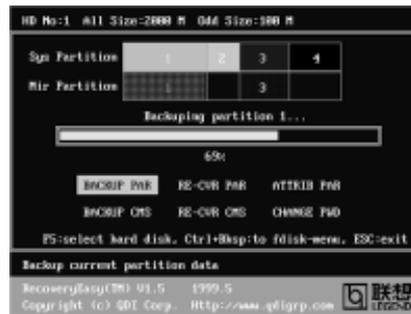

figure-4 Backup
- a. During the process of partition backup or recovery, a gauge will be shown as below, the backup or recovery speed is about 4-5Mbyte/s. See figure-4.